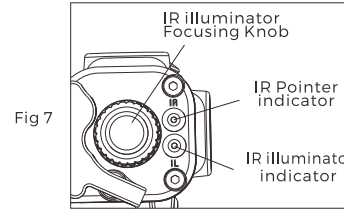

Fig 7
2. IR illumination focus adjustment: the Beam size can be adjusted by the adjusting knob which is at the rear end of the sight. The adjustment range: 95 - 210 mrad.(Fig 7)